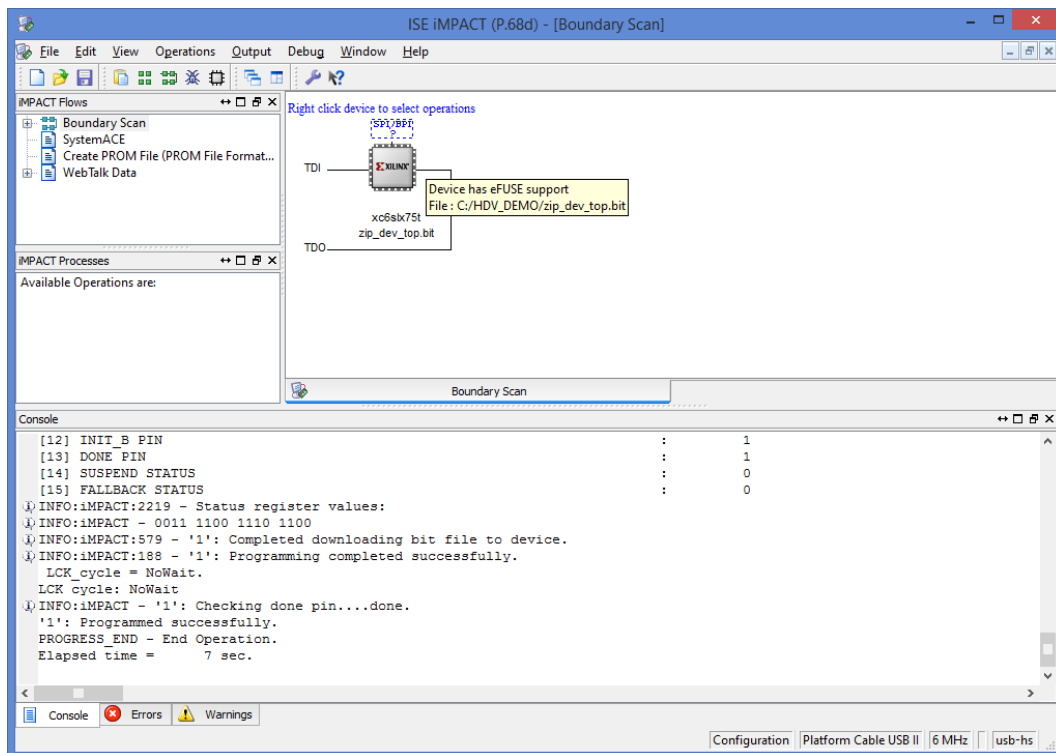

Figure 22: Programming the demo bitfile using the Xilinx Impact programming tool
1. Invoke the Xilinx Impact programming software (Figure 22)